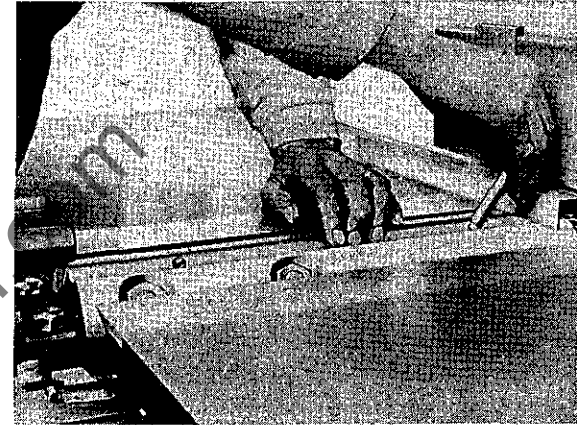

FIG. 12
4. Place a long straight edge on the back table allowing it to project over the cutterblock as Fig. 12 and with the table $1/16''$ (1.5mm) above the body of the block.
Adjust the knife with special key inserted in the head of the screw as Fig. 12 until the knife lightly makes contact with the straight edge. This is done by a partial turn of the block during the adjusting process. It is advisable to move the straight edge to two or three positions along the block to ensure the knife is set parallel. Proceed with the remainder of the knives in a similar manner.